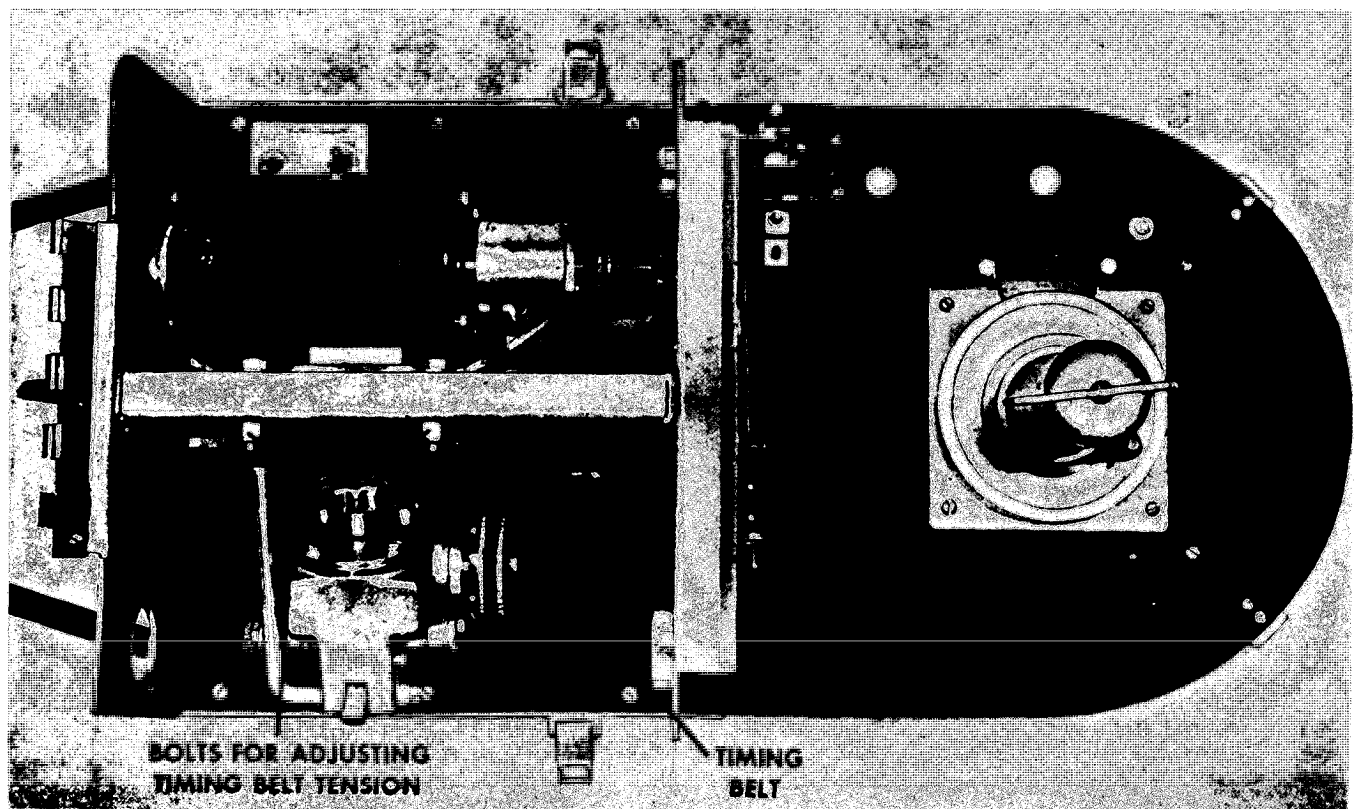
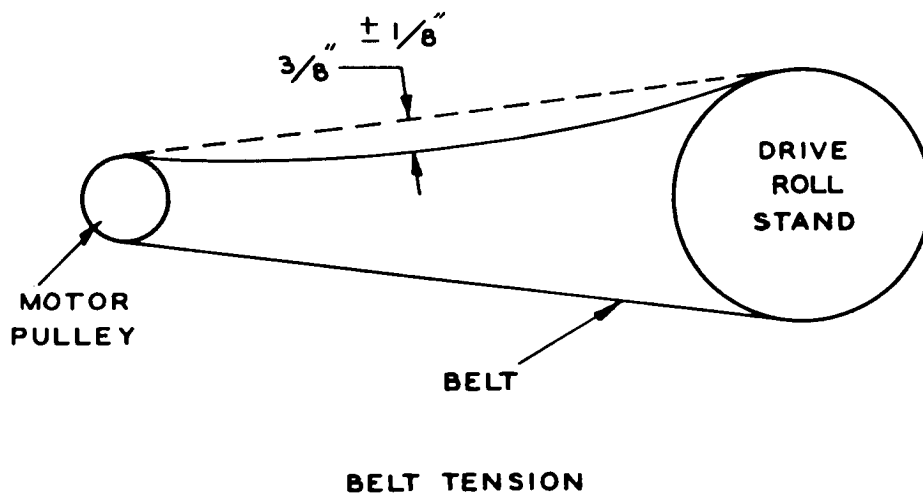

Figure 15. Timing Belt Adjustment
Figure 16. Adjustment Point for Timing Belt
d. Replace timing belt (Fig. 15) if worn or frayed. Check for proper belt tension.
adjustment of the timing belt tension. To replace the belt, it is not necessary to disturb this adjustment. The belt is eased off the pulleys and removed when the adapter is taken off the motor. Belt adjustment, however, is necessary whenever a motor is replaced. Adjust the timing belt (Fig. 15) by turning the motor mounting bolts until the tension on the belt is as shown in Figure 16. Make sure the motor is approximately parallel to the motor support, or the belt may run off the drive roll pulley.